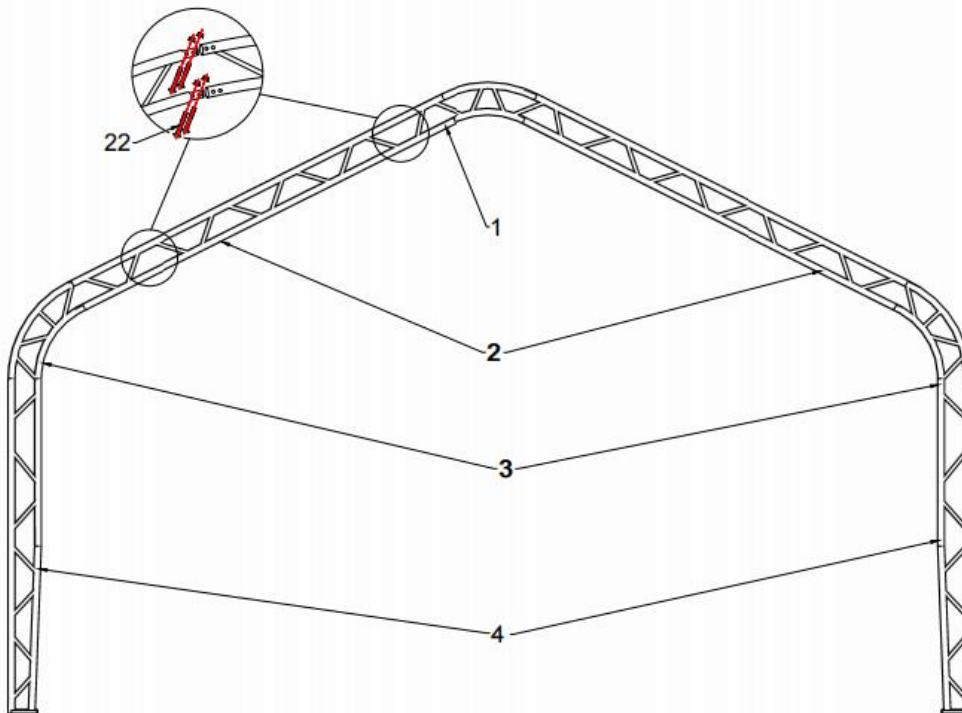
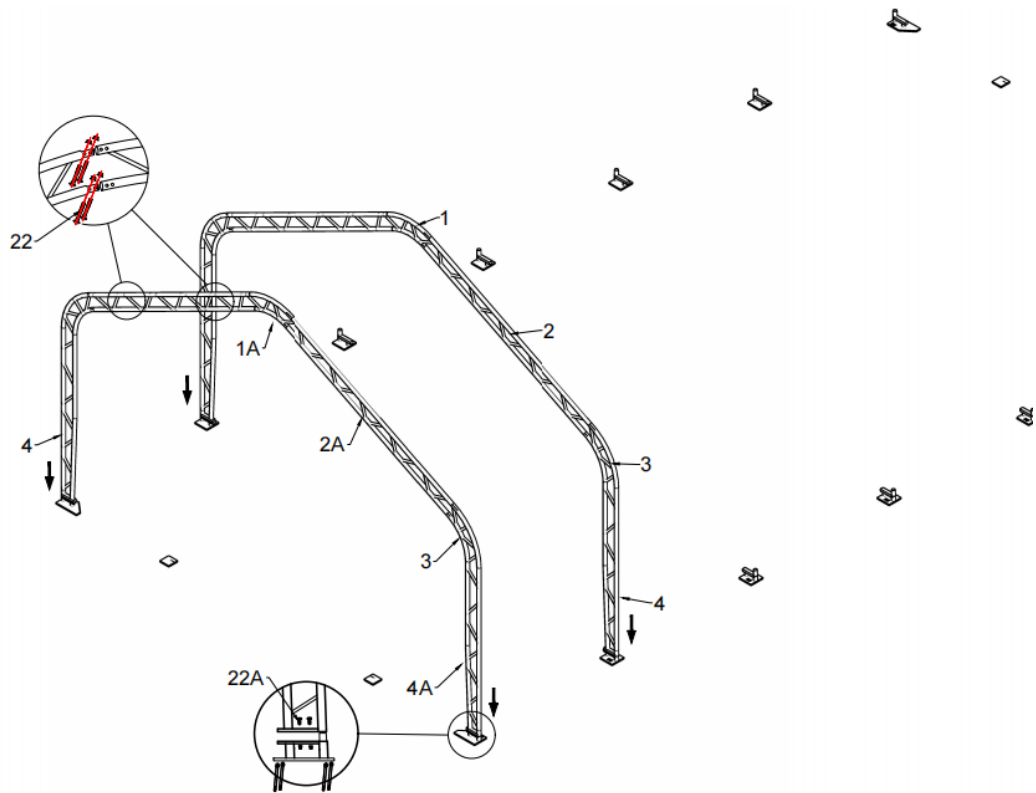

Figure 4
Figure 5
1. Figure 4 shows to connect the roof bent tube (No.1), sidewall bent tube (No.2), shoulder bent tube (No.3), and standing leg (No.4) with carriage bolt 8x80 (No.22), then put the arch into tube of the base flange by hoist, and assemble every group arch by turns (see Figure 5)